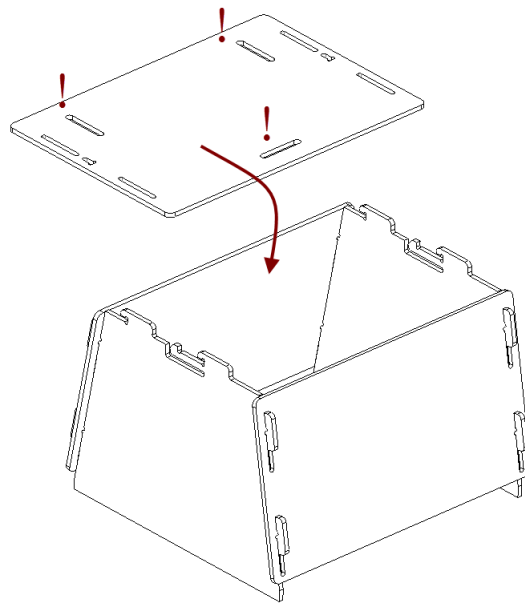

Figure 146: Mounting the cover.
3. Paying attention to orientation of the slots, install the cover using the upper hooks of the side walls (see Figure 146).